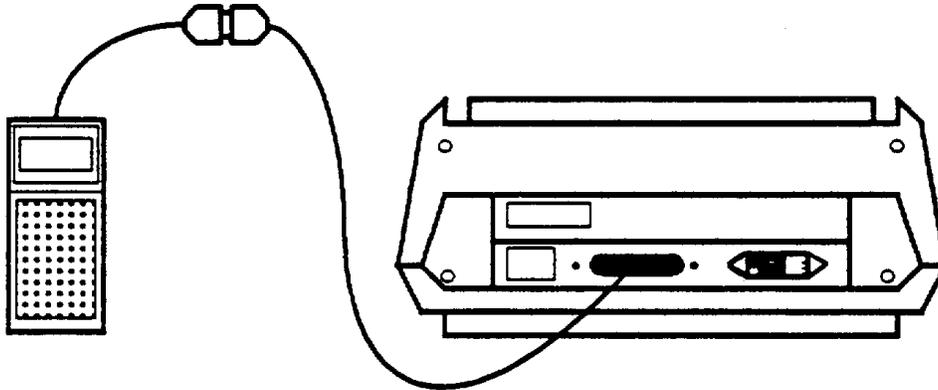

Figure 2-11. BCR to Printer
- (1) Press BCR OFF key.
- (2) Place printer power switch in OFF position.
- (3) Remove rubber cap from BCR RS232 connector port. Connect the RS232 connector cable to the BCR RS232 connector port.
- (4) Attach other end of RS232 connector cable to interface printer cable.
- (5) Connect other end of interface printer cable to RS232 connector port on printer. See figure 2-11.